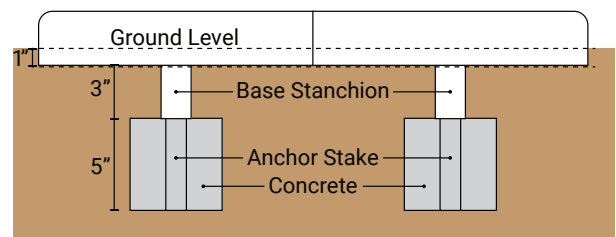

FIGURE 2
2. On level ground, dig a hole 10" deep with a level bottom (see figure 2). Place the concrete stake form in the hole, ensuring the top of the anchor stake sits approximately 2" below the surface of the ground, to prevent damage from turf maintenance equipment.